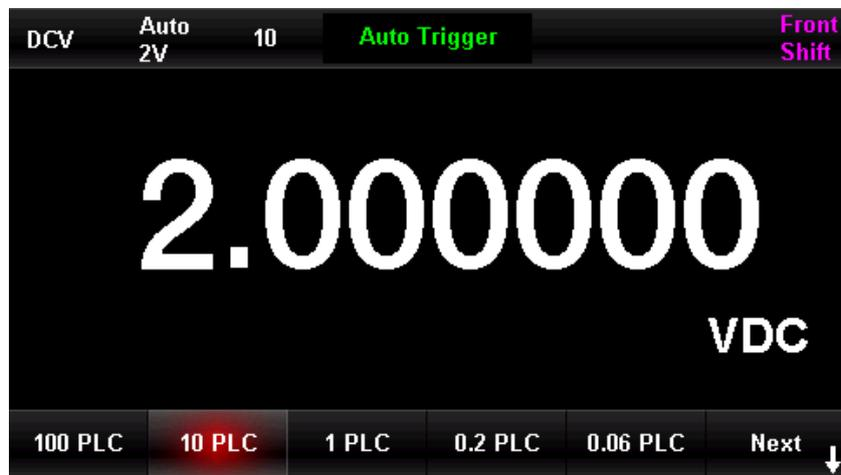

Figure 2-2 Integral time Menu
1. For DCV, DCI and OHM measurement, select [**Integral time**] in the menu to see the setting options as shown in Figure 2-2(taking DCV measurement as an example). Press the corresponding menu key to realize the configuration. Setting the integral time will affect the resolution.